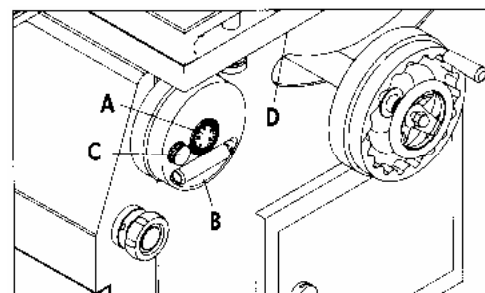

Fig. 3.21.1
2. Loose the knob (C) Fig. 3.21.1 on the handwheel (B).